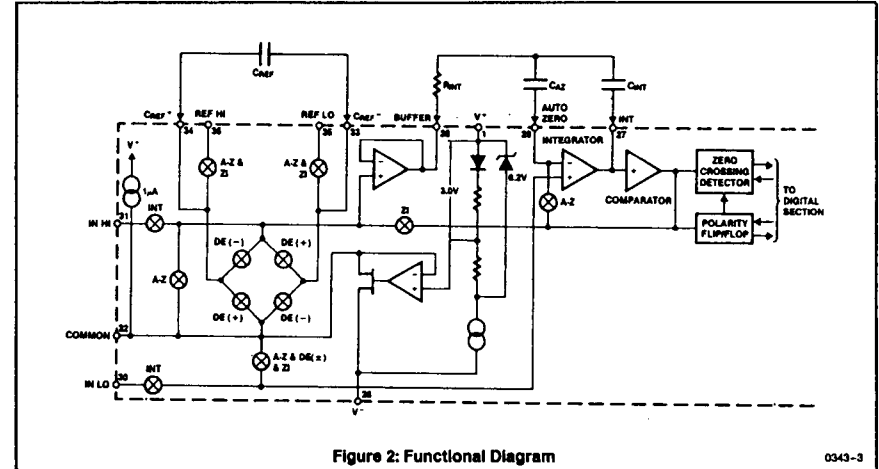

Figure 2: Functional Diagram
Figure 2 shows the Functional Diagram of the Analog Section for the ICL7136. Each measurement cycle is divided into four phases. They are 1) auto-zero (A-Z), 2) signal integrate (INT), 3) de-integrate (DE) and 4) zero integrator (Z).